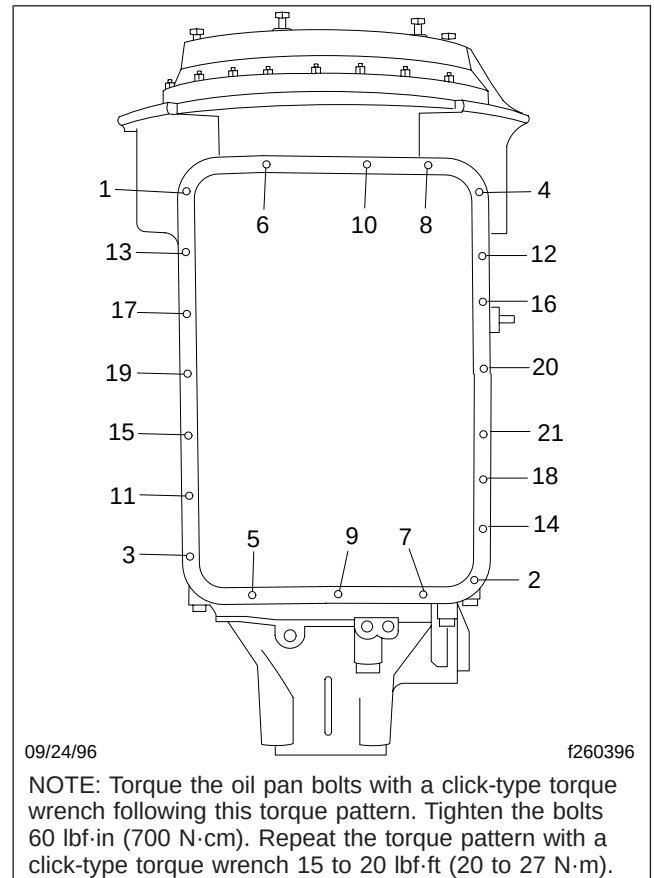

Fig. 10, Allison MT Series Transmssion, Oil Pan Torque Pattern
14. Tighten each capscrew with a click-type torque wrench 60 lbf·in (700 N·cm). Use the torque pattern shown in **Fig. 10** to distribute the torque evenly. Repeat this procedure and torque the capscrews with a click-type torque wrench 15 to 20 lbf·ft (20 to 27 N·m).